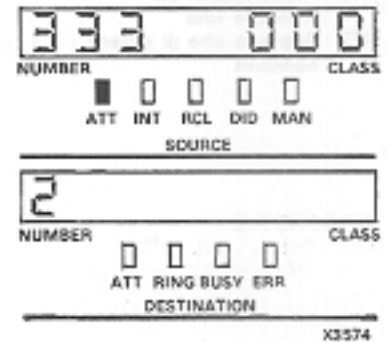

Fig. 320-1
\* DESTINATION display shows room status code (Fig. 320-1)
- \* DESTINATION display shows room status code (See Fig. 320-1)